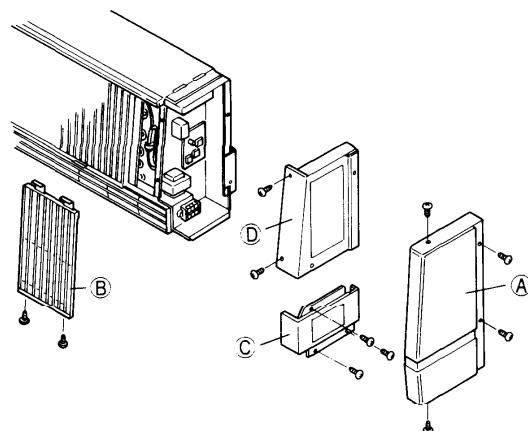

Fig. D-1
- 1) Remove the side cover (A) by unfastening four black color screws.
- 2) Remove the front panel (B) by unfastening two black color screws.
- 3) Remove the cover plates (C) and (D) of the electrical component box in accordance with Figure D-1.